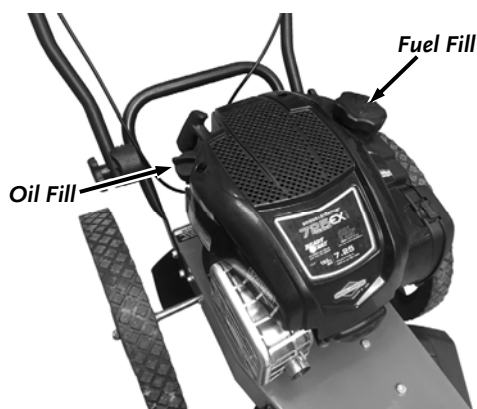

Figure 8
1. Position the machine on a level surface and Locate the Oil and Fuel Fills (Figure 8).
3. Open the Oil Fill Cap and initially add half of the recommended SAE 30 High Detergent oil into the Oil Fill and wait one minute for the oil to settle (Figure 8). See your Engine manual for recommended Oil amount.
5. Fill the Fuel Tank with fresh, unleaded gas (with a minimum of 85 Octane and no more than 10% Ethanol), to not more than 1/4" from the bottom of the Fill Neck to allow for Fuel expansion (Figure 8). Be careful not to overfill and reinstall the Cap before starting the Engine. See your Engine Owner's Manual for more information.